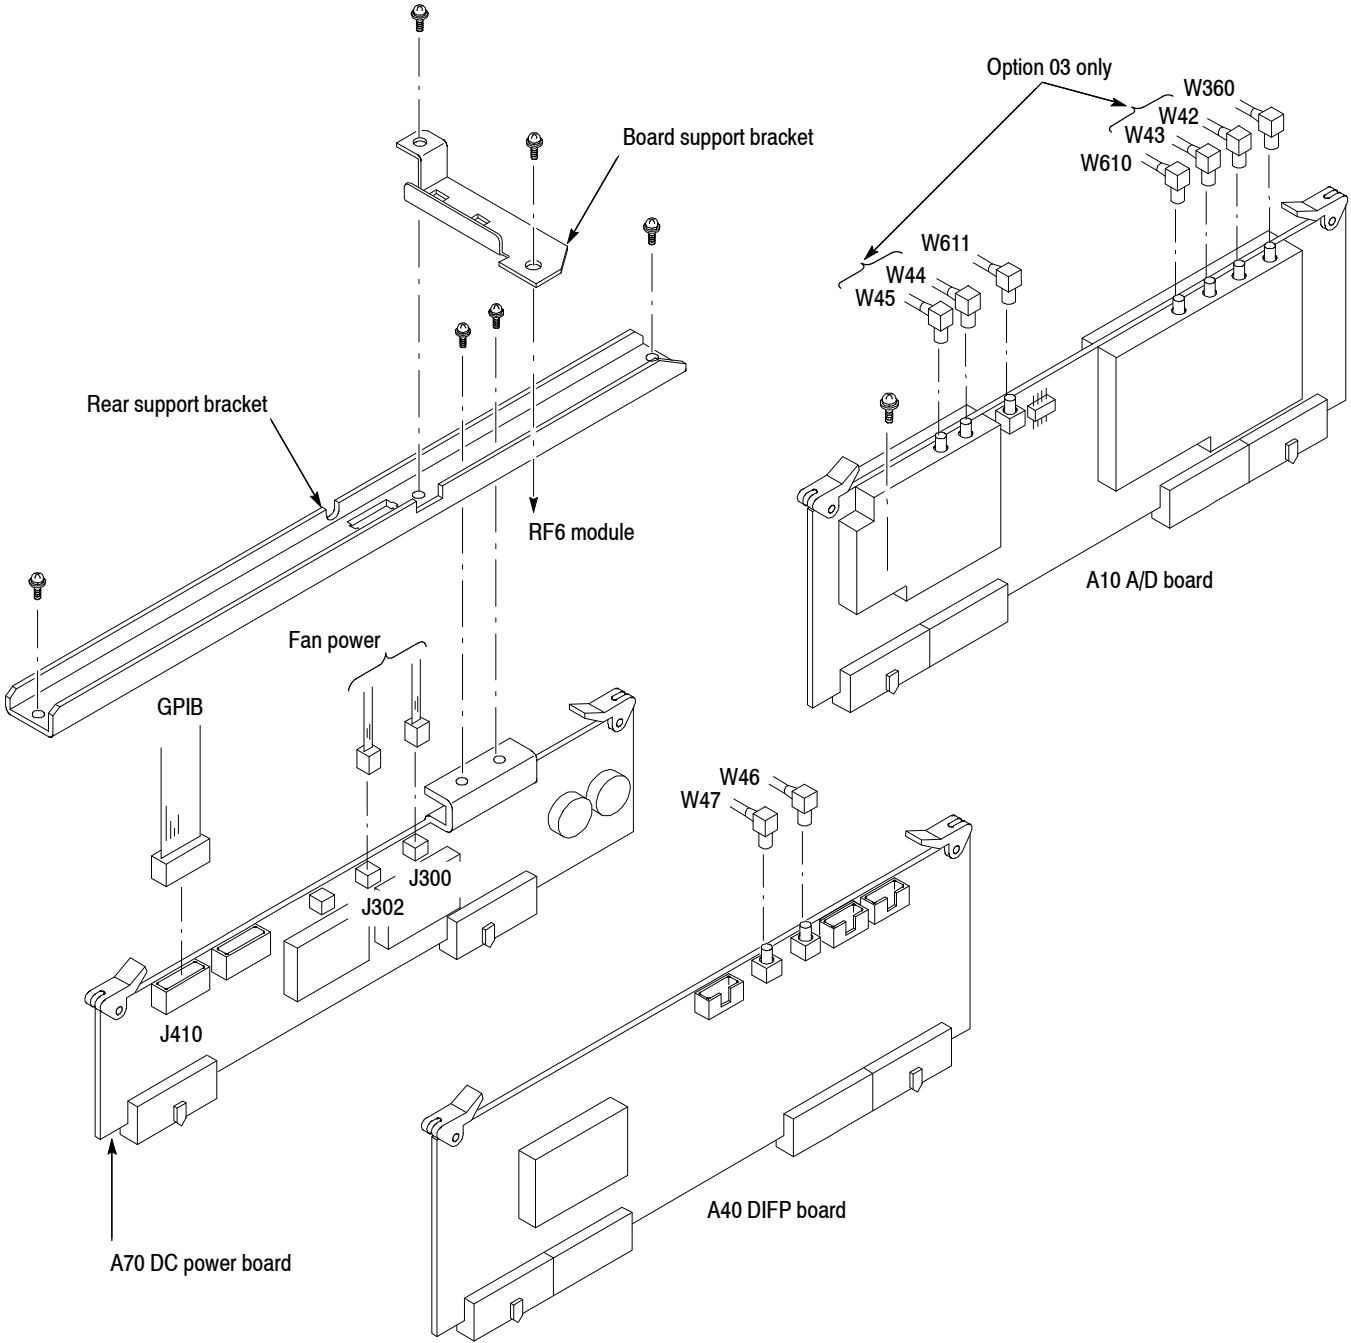

Figure 6-22: Daughter boards removal
3. *Remove the board support bracket:* See Figure 6-22 on page 6-43. Remove the two screws securing the board support bracket to the rear support bracket and the RF6 module. Lift the board support bracket away.
4. *Remove the A10 A/D board:* See Figure 6-22. Also see Figure 6-37 on page 6-75 for the cable interconnection.
3. *Remove the A40 DIFP board:* See Figure 6-22. Also see Figure 6-37 on page 6-75 for the cable interconnection.
3. *Remove the rear support bracket:* See Figure 6-22.
4. *Remove the A70 DC power board:* See Figure 6-22.